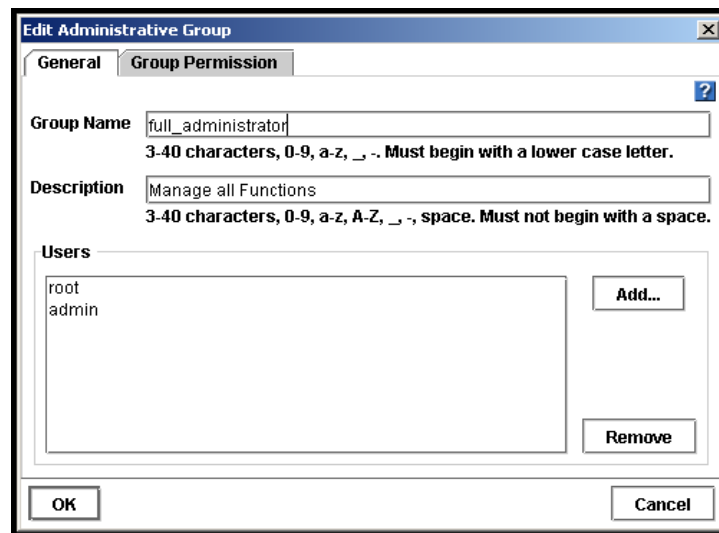

Figure 85. Editing an Administrative Group
3. Click Edit. The Edit Administrative Group window opens, shown in Figure 85.